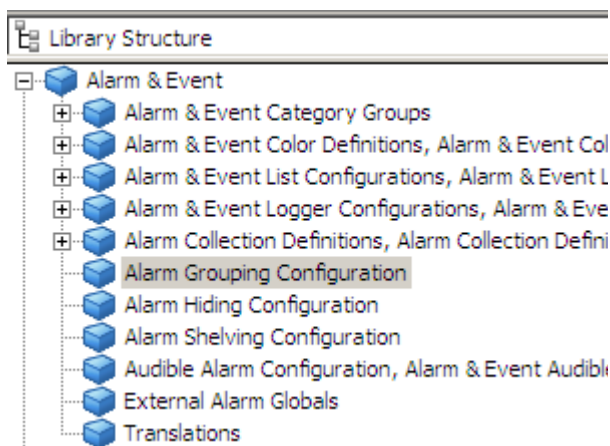

Figure 62. Alarm Grouping Configuration - Library Structure
1. Navigate to the **Library Structure > Alarm & Event > Alarm Grouping Configuration** (refer to Figure 62).